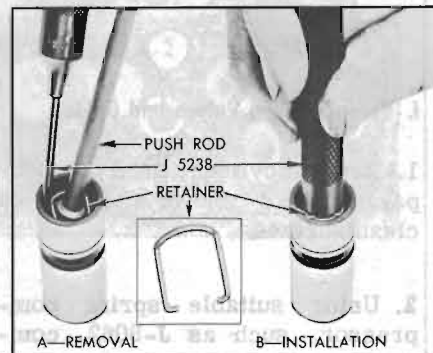

Figure 60-220—Removing and Installing Plunger Retainer
5. Disassemble each valve lifter by using a push rod to hold down the push rod seat while removing the plunger retainer from the lifter body using Retainer Remover J-5238. See Figure 60-220. Remove push rod seat and plunger from lifter body.
17. Rinse push rod seat and plunger retainer, place these parts in end of body and depress with handle of Remover J-5238 until retainer engages groove in body. See Figure 60-220, View B.